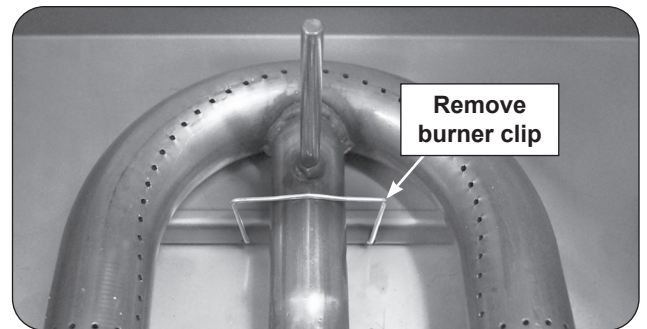

Fig. 41-2 Burner clip removal
2. Locate the burner clip (located over the rear center tube of the burner) and slightly pinch and remove the clip from the burner support (see Fig. 41-2).